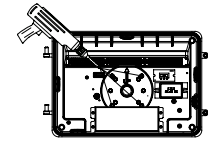

Figure 3
4. Drill mounting holes with an electric drill. For elbow with 1-pin sensor socket, see installation guide for instructions. (Figure 3)